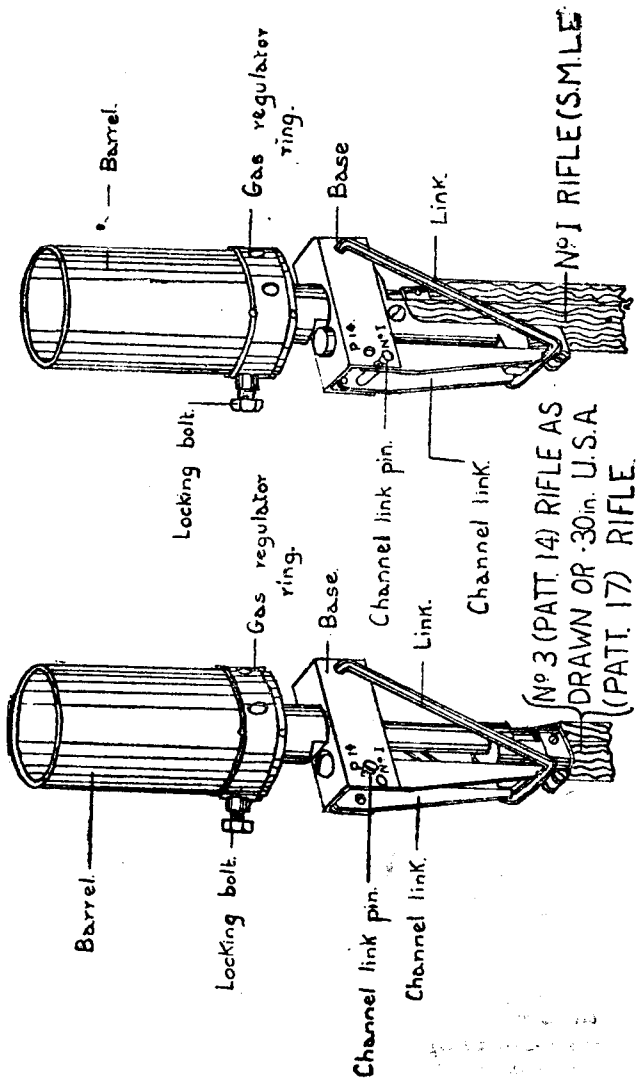

FIG. 11
i. *Description (see Fig. 11).*